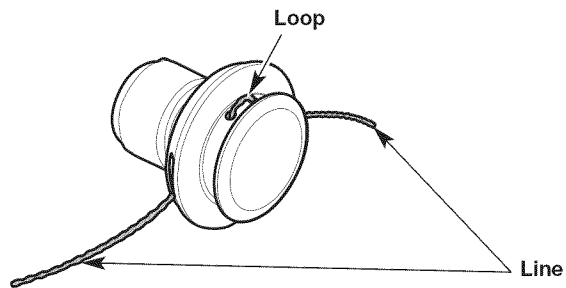

Fig. 21
4. Pull the ends of the line until the line is tight against the cutting head. Make sure the ends of the line are of equal length (Fig. 21). If one end is longer than the other, push the longer end back through the cutting head partway and pull the shorter end out. If necessary, repeat this process until both ends are of equal length.
5. Press the exposed loop of trimming line until it is tight against the cutting head (Fig. 21).